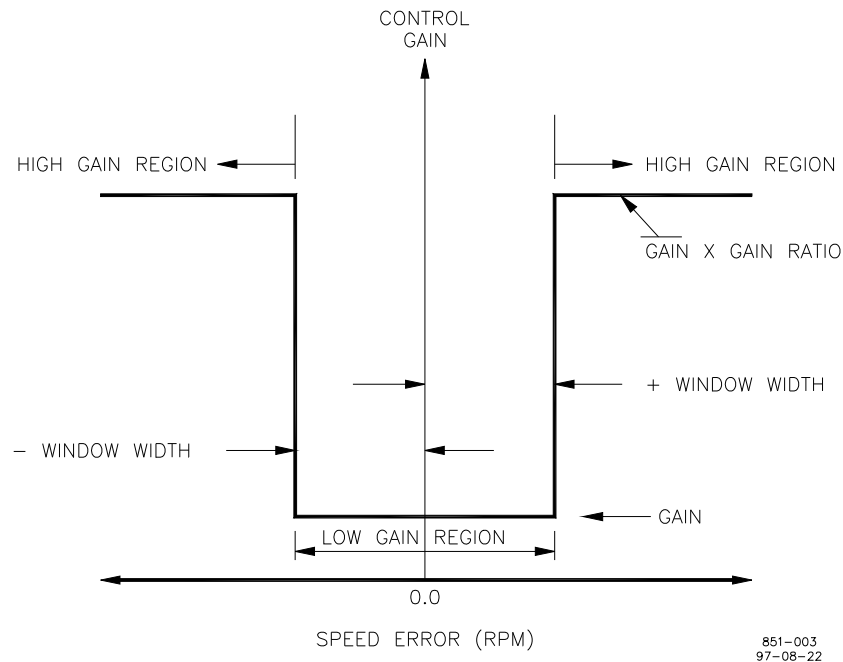

Figure 3-1. Control Gain as a Function of Speed Error
- 04 WINDOW WIDTH 1 (RPM)** is the magnitude (in rpm) of speed error at which the control automatically switches to fast response. The control uses the absolute value of speed error to make this switch. The absolute value is the difference between the speed reference and the speed. A Window Width too narrow will result in cycling that always factors in the Gain Ratio (see Figure 3-1).
- 05 GAIN RATIO 1** is the ratio of the Gain setting at steady state to the Gain setting during transient conditions. The Gain Ratio operates in conjunction with the Window Width and Gain adjustments by multiplying the Gain set point by the Gain Ratio when the speed error is greater than the Window Width. This makes the control dynamics fast enough to minimize engine-speed overshoot on start-up and to reduce the magnitude of speed error when loads are changing. This allows a lower gain at steady state for better stability and reduced steady-state actuator linkage movement (see Figure 3-1).
- 13 WINDOW WIDTH 1 (RPM)** is the magnitude (in rpm) of speed error at which the control automatically switches to fast response. The control uses the absolute value of speed error to make this switch. The absolute value is the difference between the speed reference and the speed. A Window Width too narrow will result in cycling that always factors in the Gain Ratio (see Figure 3-1).
- 14 GAIN RATIO 1** is the ratio of the Gain setting at steady state to the Gain setting during transient conditions. The Gain Ratio operates in conjunction with the Window Width and Gain adjustments by multiplying the Gain set point by the Gain Ratio when the speed error is greater than the Window Width. This makes the control dynamics fast enough to minimize engine-speed overshoot on start-up and to reduce the magnitude of speed error when loads are changing. This allows a lower gain at steady state for better stability and reduced steady-state actuator linkage movement (see Figure 3-1).